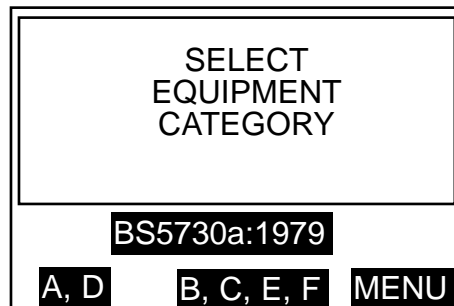

Figure 18. BS5730a Equipment Category selection display screen.
2. From the main menu highlight and select BS5730a. The display will appear similar to figure 18.